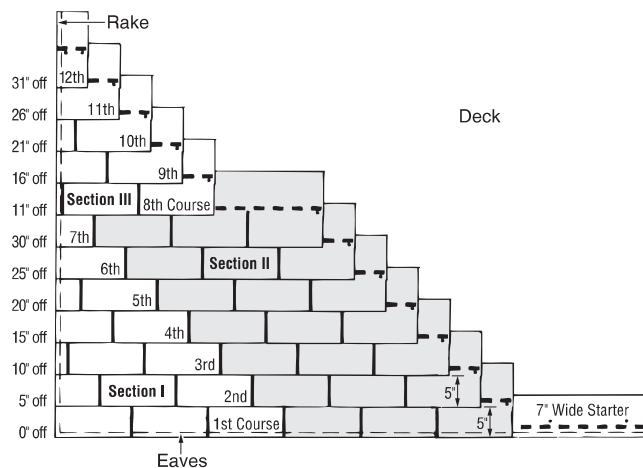

Figure 10-9: Five-Inch, Stepped-Off Diagonal Method.
1. Begin the second course by cutting 5" off the left end of a shingle and applying the 31" piece over the first-course shingle, flush with the left edge of the first-course shingle, and exposing the first course 5" (*Figure 10-9*).
3. Install "Section II" as shown in *Figure 10-9* using full shingles against the seven courses in "Section I." This must be done before continuing with courses eight through 12 ("Section III"). These "Section II" shingles are to be butted-up against the "Section I" shingles that started courses one through seven. Fasten all shingles in the normal fashion.
1. Begin the eighth course by cutting 11" off the left end of a shingle and applying the 25" piece over the seventh-course shingle, flush with the left edge of the seventh-course shingle, and exposing the seventh course 5" (Figure 10-9).